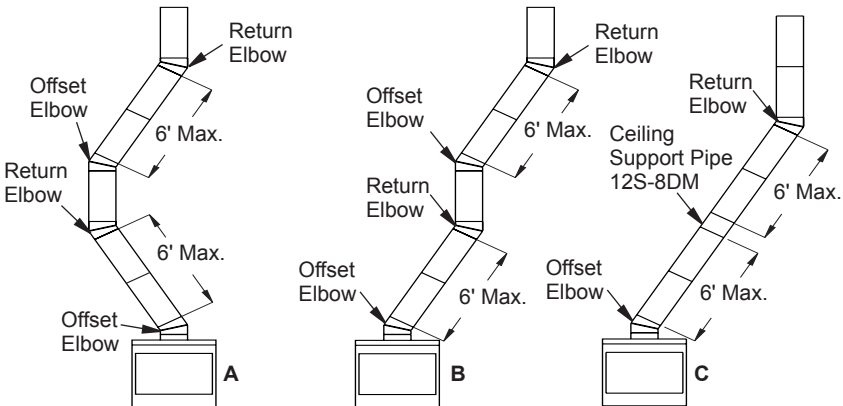

Figure 7 - Typical Offset Terminations
- To achieve desired offset, you may install combinations of 12", 18", 24", 36" and 48" length of double wall pipe (see offset chart and Figure 7).
- Maximum length of pipe between supports (return elbow or 12S-8DM) is 6' of angle run. Maximum of two 6' angle run sections per chimney system (see Figure 7).